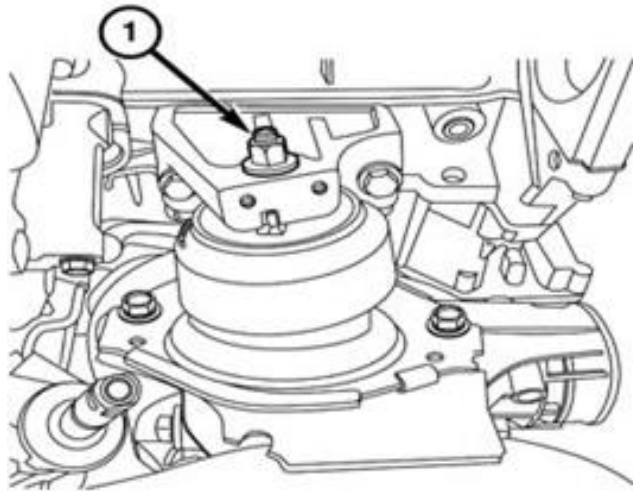

Figure 37 – Engine Mount Nut
77. Remove the left engine mount nut (1) (Figure 37).